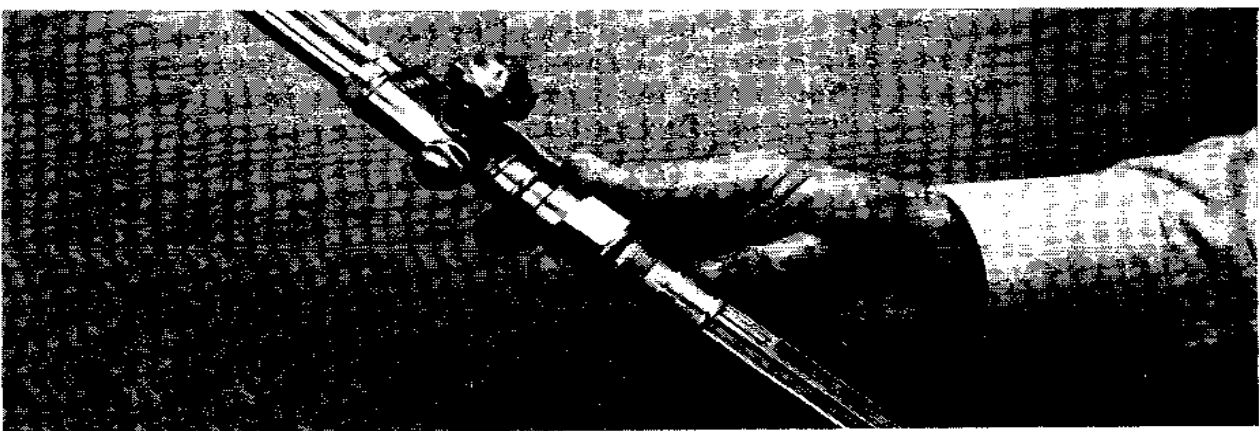

Figure 24, Connecting Cutting Attachment to Torch Handle
5. Connect the cutting attachment to the torch handle and tighten the coupling nut, hand-tight only. Wrench tightening may damage o-rings, creating a faulty seal (see Figure 24, page 33).